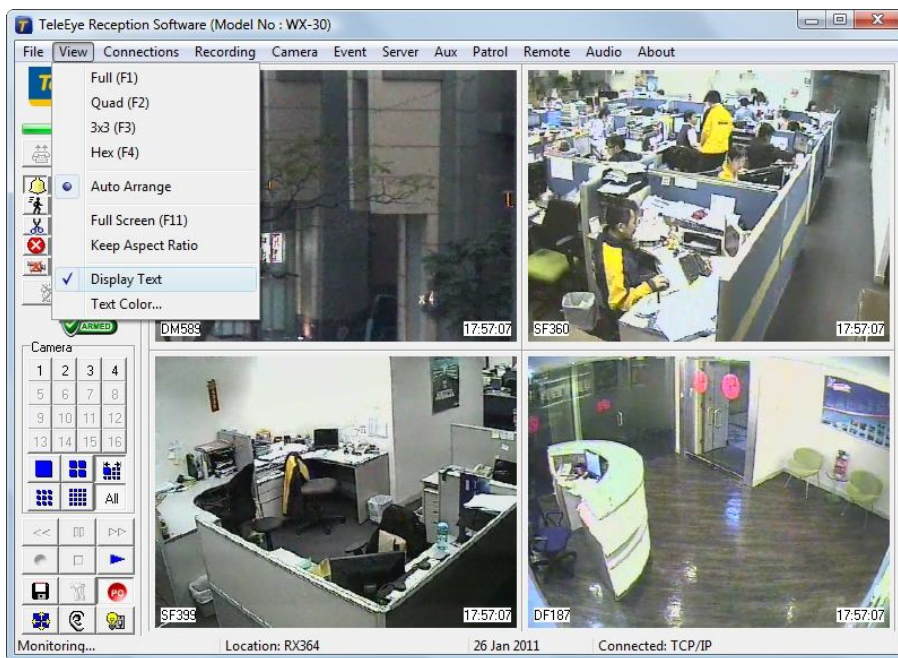

Fig 5.3a
Step 1 : In {Transmitter Setup} panel, click [Video Settings] → [Video properties] as Fig 5.3a.